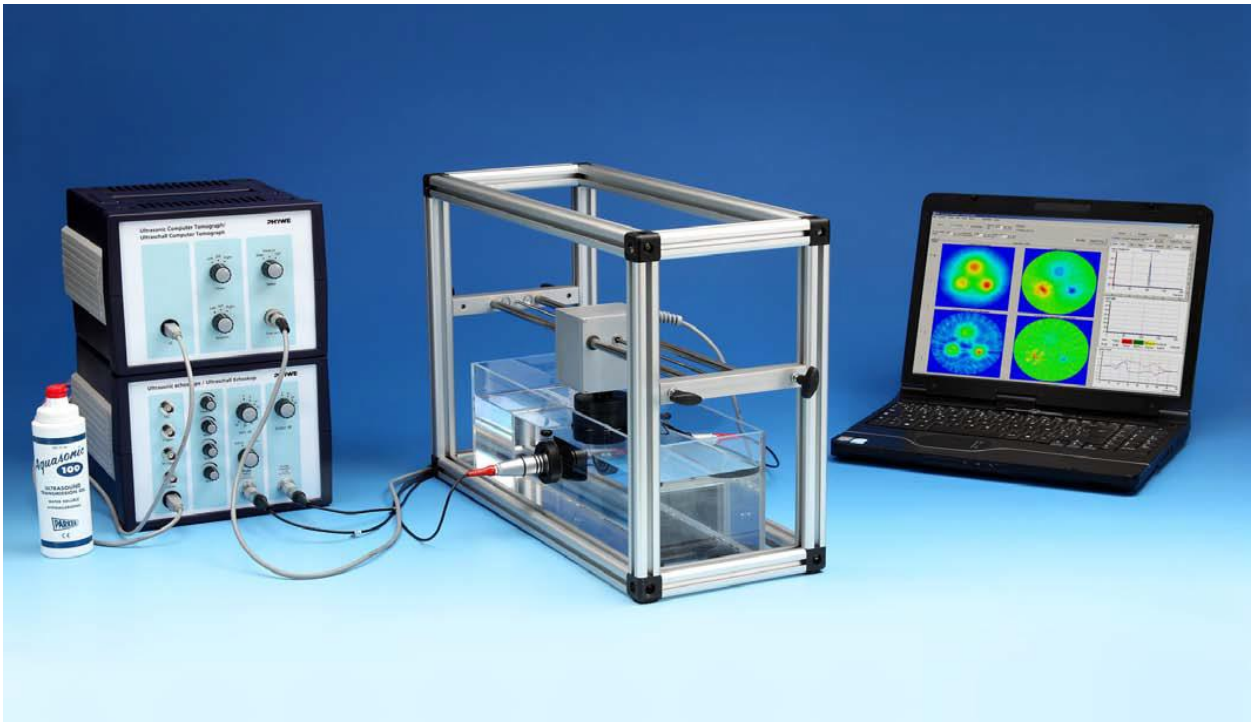

Fig. 4. Experimental setup for performing ultrasonic computed tomography.
2. Lower the scanning system using the screws until the magnetic holder of the sample is below the water surface (as in Fig. 4).